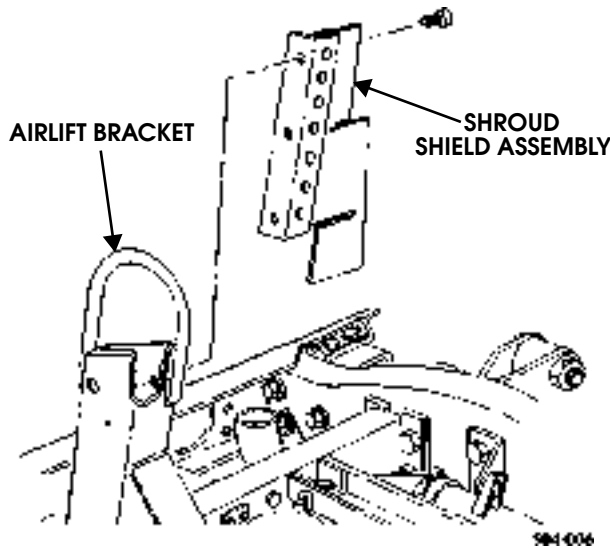

Figure 4-9: Shroud Shield Assembly Replacement
2. Remove screws and shroud shield assembly from airlift bracket (Figure 4-9).
1. Secure shroud shield assembly to airlift bracket with screws (Figure 4-9).